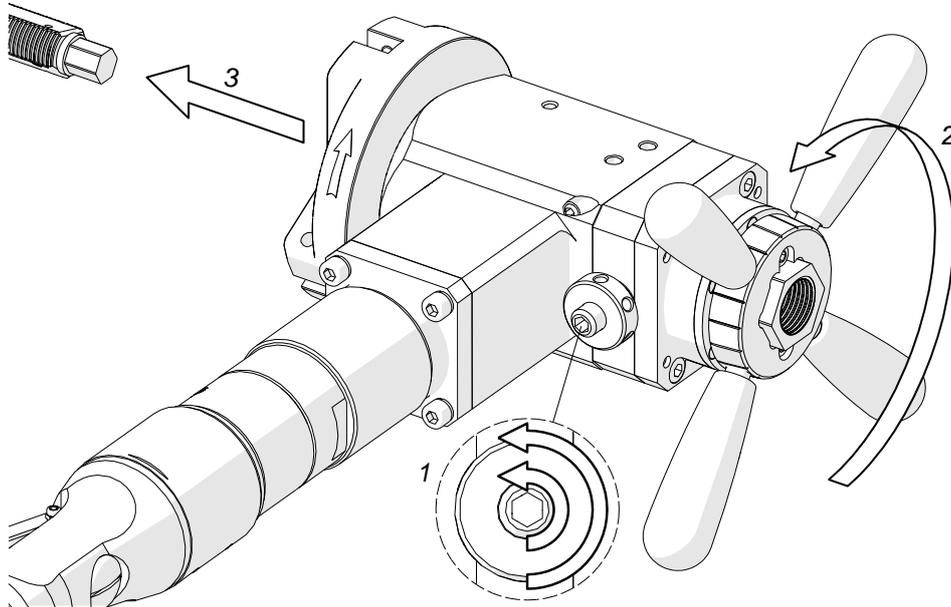
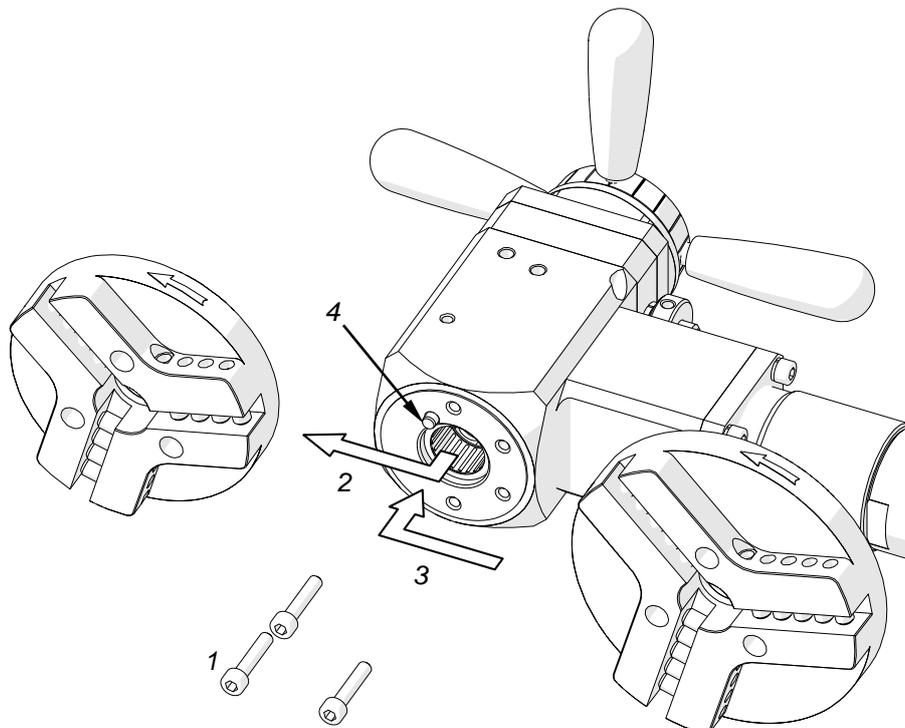

Fig. 7. Removing the mandrel from the machine
Fig. 8. Replacing the spindle disk
Loosen the nut and use the 6 mm hex wrench to loosen the set screw (1, Fig. 7) to at least one turn. Then, rotate the spoke handles to the left (2) to disengage the mandrel from the machine (3).
Use the 5 mm hex wrench (1, Fig. 8) and remove the spindle disk (2). Then, install the new disk (3) onto the pin 4 and tighten with the same screws.
Install the spindle disk after previously removing the existing spindle disk (Fig. 7, Fig. 8). Then, use the following table to select jaw blocks of the set suitable to the inside diameter of the pipe to be machined, and use the 3 mm hex wrench to tighten them to the expanding mandrel (1, Fig. 2). Install the tool bits in the sockets and tighten the screws (3, Fig. 2) using the 4 mm hex wrench.